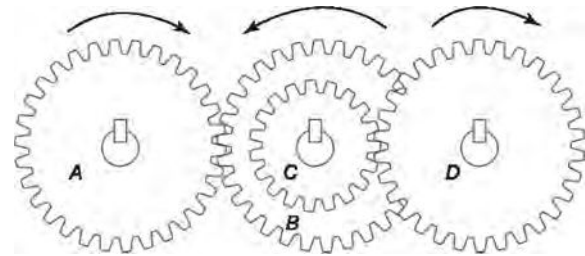

Figure 20.6
A **compound gear train** is shown in Figure 20.6, in which gear wheels B and C are fixed to the same shaft and hence $N_B = N_C$
Problem 8. A compound gear train similar to that shown in Figure 20.6 consists of a driver gear *A*, having 40 teeth, engaging with gear *B*, having 160 teeth. Attached to the same shaft as *B*, gear *C* has 48 teeth and meshes with gear *D* on the output shaft, having 96 teeth. Determine (a) the movement ratio of this gear system and (b) the efficiency when the force ratio is 6.
3. A compound gear train is as shown in Figure 20.6. The movement ratio is 6 and the numbers of teeth on gears *A*, *C* and *D* are 25, 100 and 60, respectively. Determine the number of teeth on gear *B* and the force ratio when the efficiency is 60%. [250, 3.6]